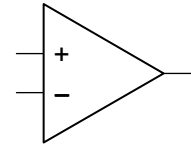

Figure 9.1: An op-amp.
An op-amp has two inputs, the inverting input (V_-) and the non-inverting input (V_+), and one output, as shown in figure 9.1 on the right. The fundamental relation governing the operation of an op-amp is that the output is the open loop gain (A) times the difference between these input voltages: